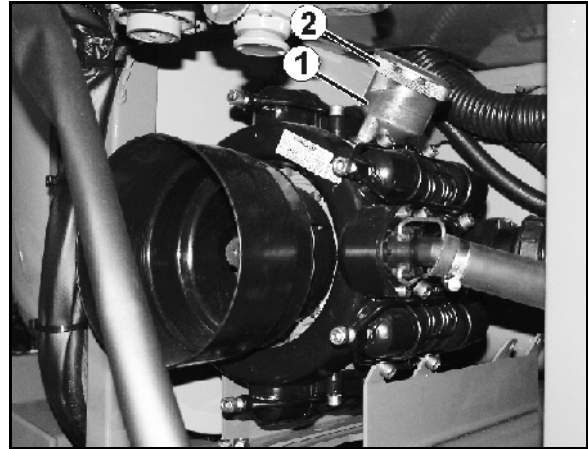

Fig. 148
1. Check whether the oil level is visible at the mark (Fig. 148/1) with the pump not running and standing on a flat surface.
2. If the oil level is not visible at the mark (Fig. 148/1), remove the lid (Fig. 148/2) and top up with oil.
2. Remove the lid (Fig. 148/2).
5. Turn the drive shaft left and right alternately and slowly fill with new oil. The right quantity of oil has been reached when the oil is visible at the mark (Fig. 148/1).